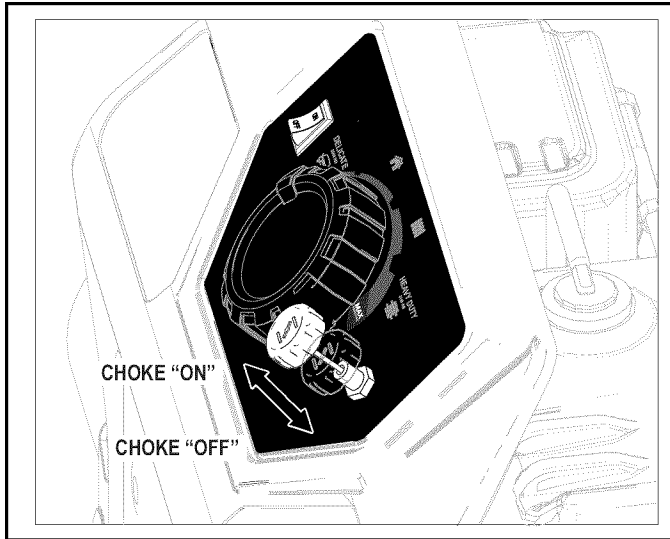

Figure 5-6. Choke Knob
7. When engine starts, slowly push the choke knob in to the “OFF” position as engine warms. If engine falters, pull choke knob out to the “ON” position, then push in to the “OFF” position (Figure 5-6).